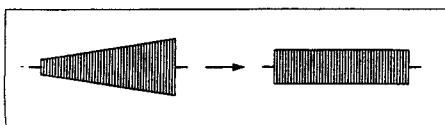

Fig. 3-2-5 PB FM
- (1) Connect an oscilloscope to TP106 and external trigger from TP111 (positive slope).
- (2) Playback the LP stairstep portion of the alignment tape at LP 2 x mode.
- (3) Set the automatic tracking control to the OFF by simultaneously pressing the TV PROG "-" and "+" buttons.
- (4) Adjust for maximum level of the playback FM waveform by depressing TV PROG "-" or "+" buttons.
- (5) Adjust by pressing "M+D" or "M+E" buttons of the presetting unit for the FM waveform is flat as shown in Fig. 3-2-5.
- (6) Adjust for half level of the playback FM waveform from maximum level by depressing TV PROG "-" or "+" buttons.
- (7) Readjust by pressing "M+D" or "M+E" buttons of the presetting unit for the FM waveform is flat as shown in Fig. 3-2-5.
- (8) Record the colour bar signal by LP mode and play it back in the LP FWD slow mode.
- (9) Repeat steps (4) and (5).
- (10) Depress the STOP button.